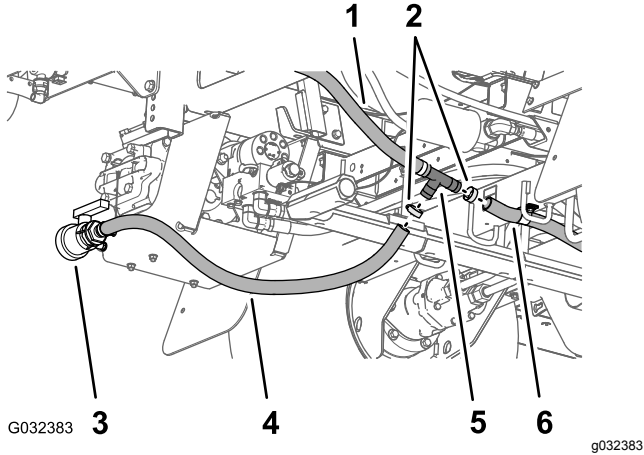
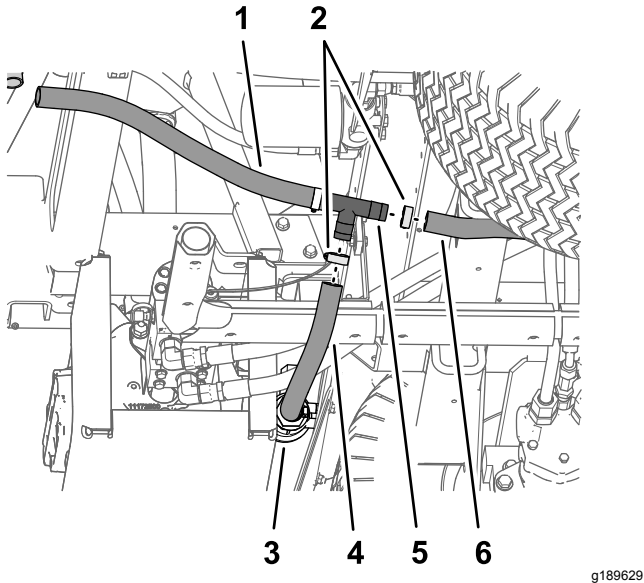

Figure 42
Figure 43
4. Remove the hose clamps that secure the drain-valve hose and the rear tank-drain hose to the barbed T-fitting (Figure 42 and Figure 43).
5. Remove the T-fitting from the drain-valve hose from the rear tank-drain hose (Figure 42 and Figure 43).